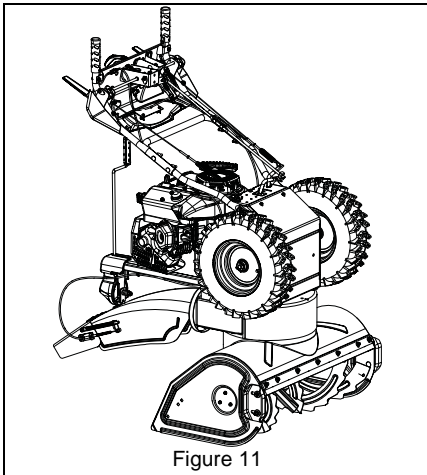

Figure 11
See Figure 11.
1. Place unit in service position. See Figure 11.